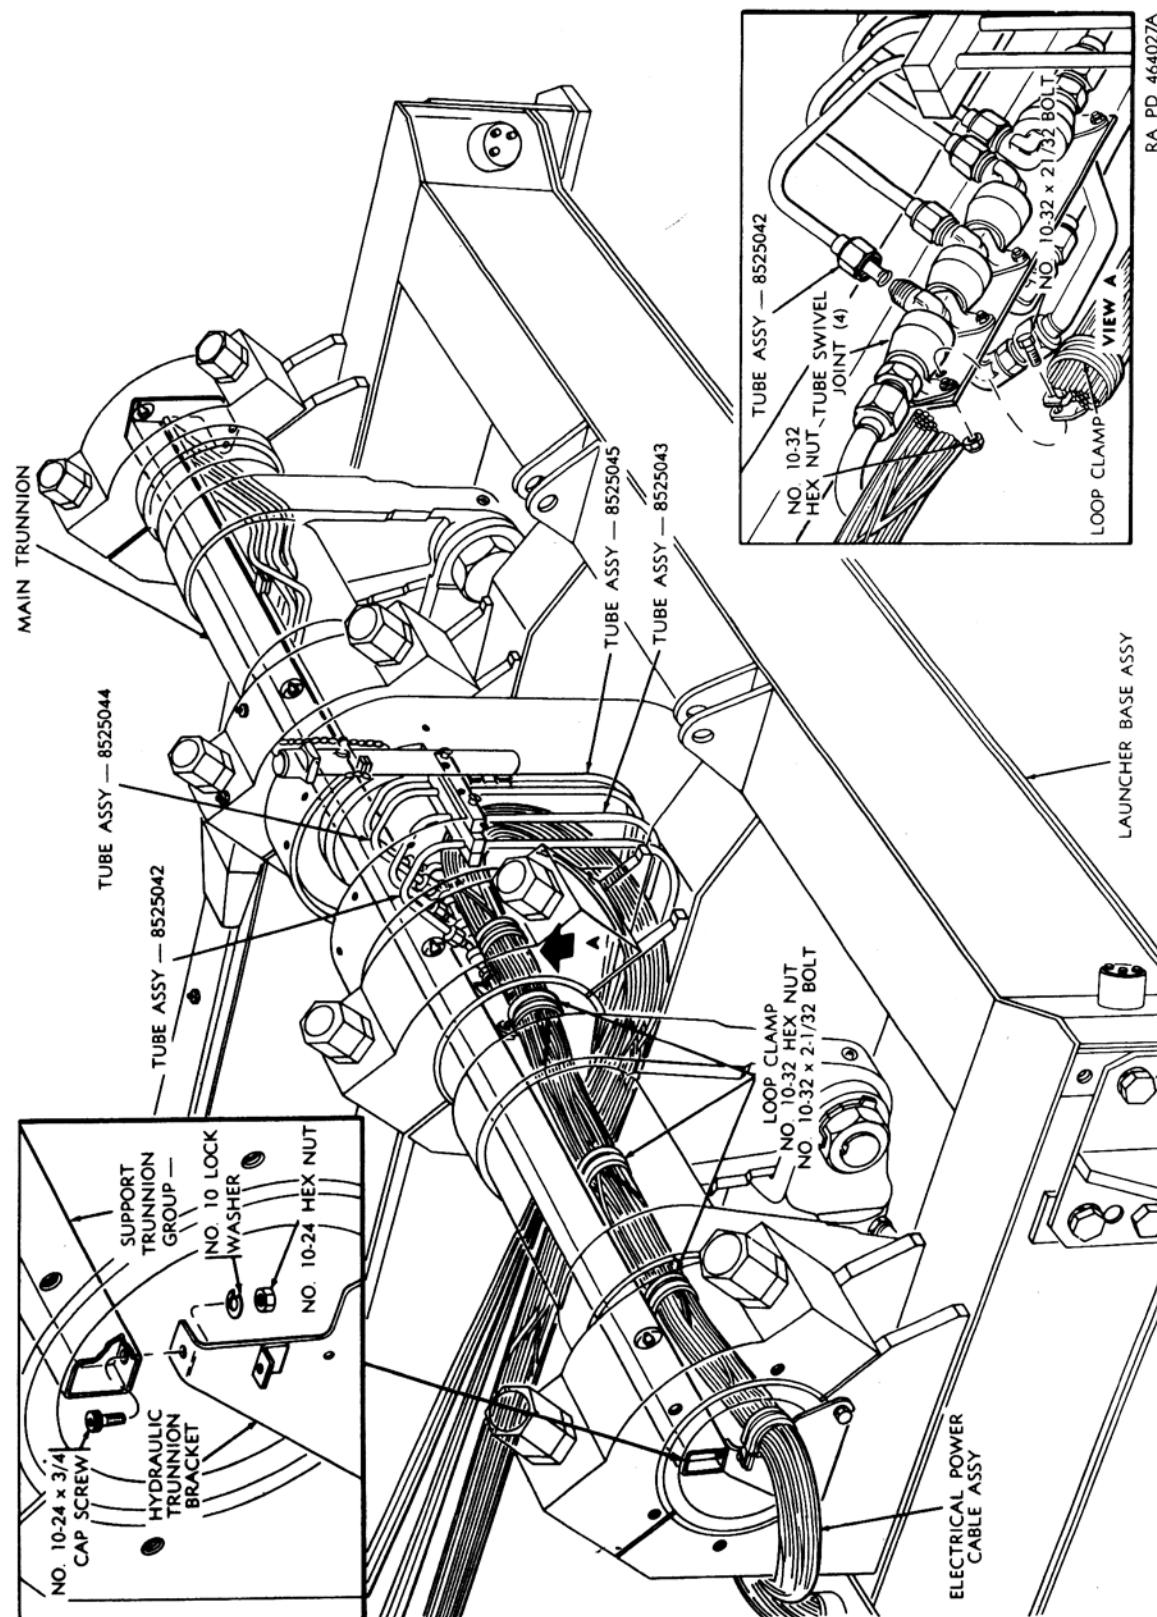
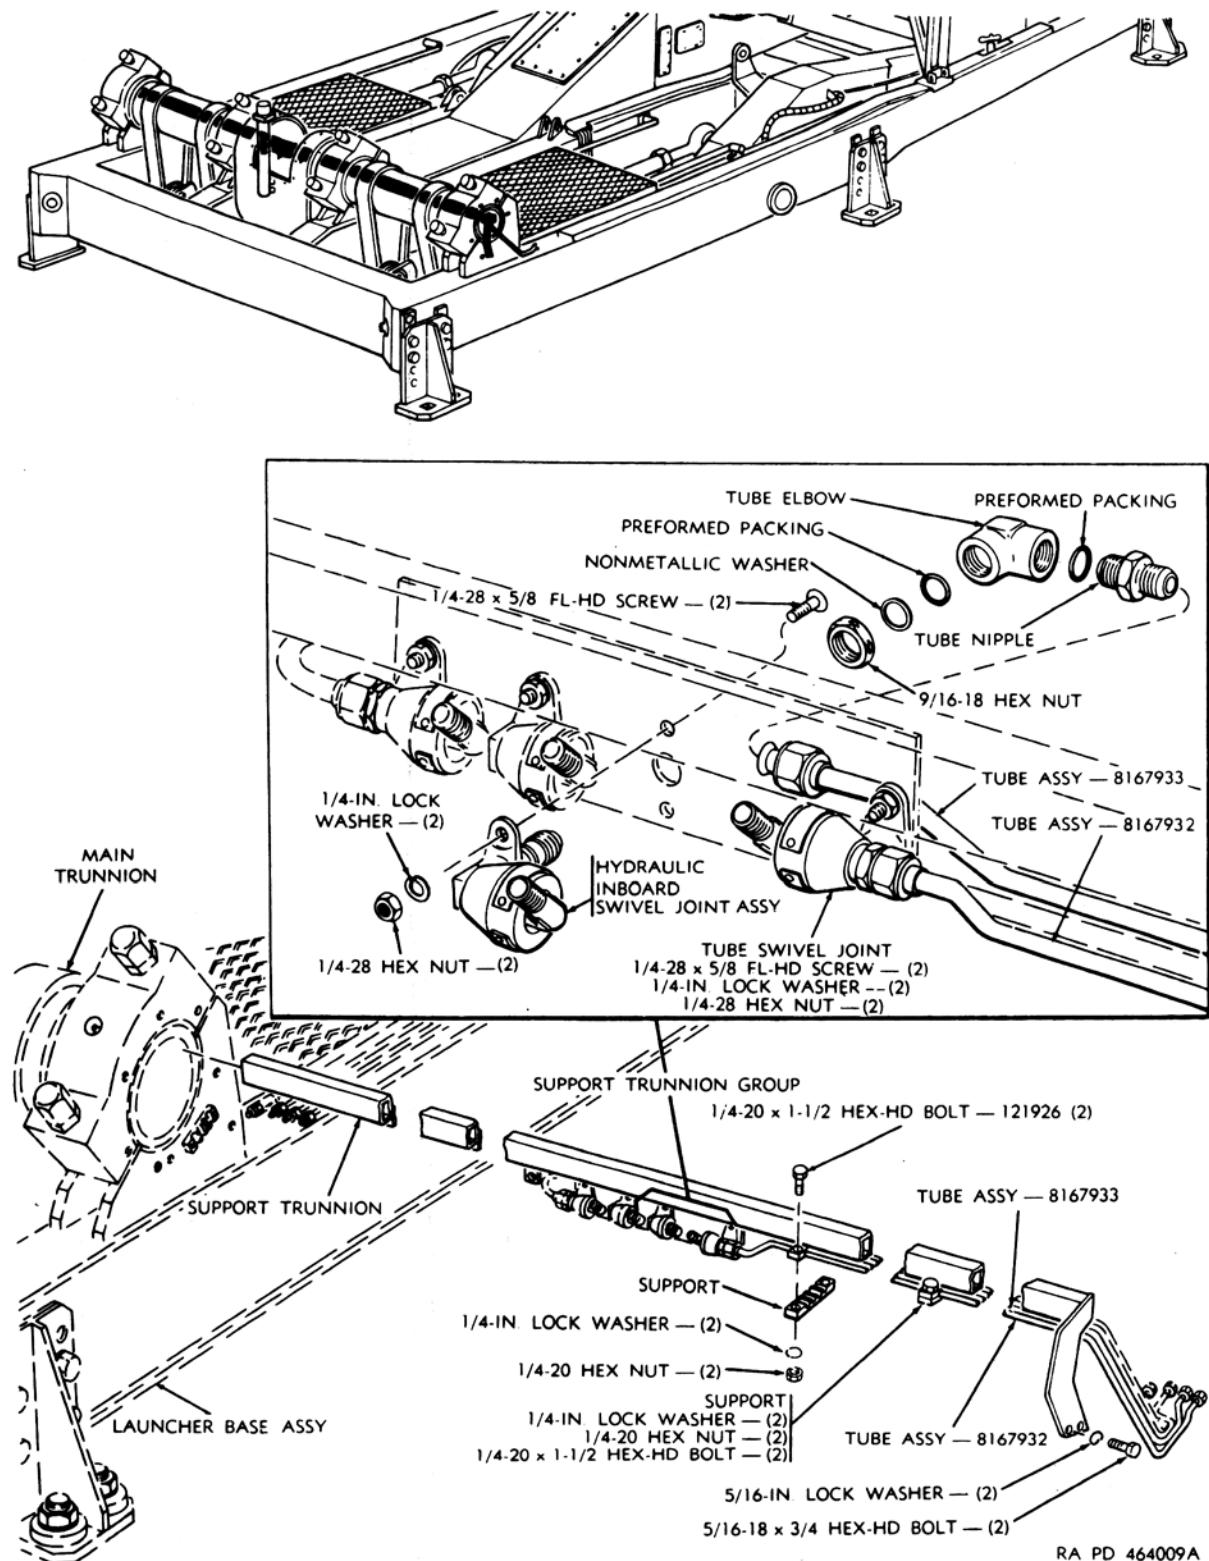

Figure 184. Locking wedge system hydraulic network—removal and installation.
Figure 185. Locking wedge system hydraulic network—removal and installation—continued.
- (5) Disconnect the four tube assemblies (fig. 184) inside the erecting beam from the four tube swivel joints. Cap all open lines.
- (7) Disconnect the support trunnion group (fig. 184) from the hydraulic trunnion bracket.
- (8) Disconnect the support trunnion group (fig. 185) at the right side.
- (9) Remove those loop clamps (fig. 184) which are accessible and which attach the electrical power cable assembly to the trunnion group.
- (10) Loop clamps installed on the cable assembly that are not accessible must be removed as follows:
- (a) Move the support trunnion group (fig. 185) out the right end of the main trunnion. The cable assembly (fig. 184) will not move, but the oversized loop clamps will slide over the cable assembly.
- (11) Remove the support trunnion group (fig. 185).
- (12) Remove the support to be replaced.
- (1) Install tube swivel joint assembly and hydraulic inboard swivel joint assembly as shown in fig. 185.
- (2) Connect tube assemblies to swivel joint assemblies (view A, fig. 184) and torque coupling nuts to 300 pound-inches.
- (3) Install two supports.
- (4) Install loop clamps (fig. 184) as described in (a) through (c) below.
- (a) Slide support trunnion group (fig. 185) in main trunnion until first loop clamp (fig. 184) can be installed.
- (5) Position and install trunnion group (figs. 184 and 185) at each end of trunnion.
- (7) Connect tube assemblies (fig. 184) to their respective swivel joints. Torque coupling nuts to 300 pound-inches.